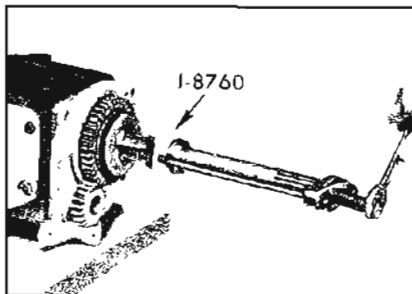

Figure 4-45—Removing Speedometer Gear
7. Remove the speedometer gear with J-8760 as shown in Figure 4-45.